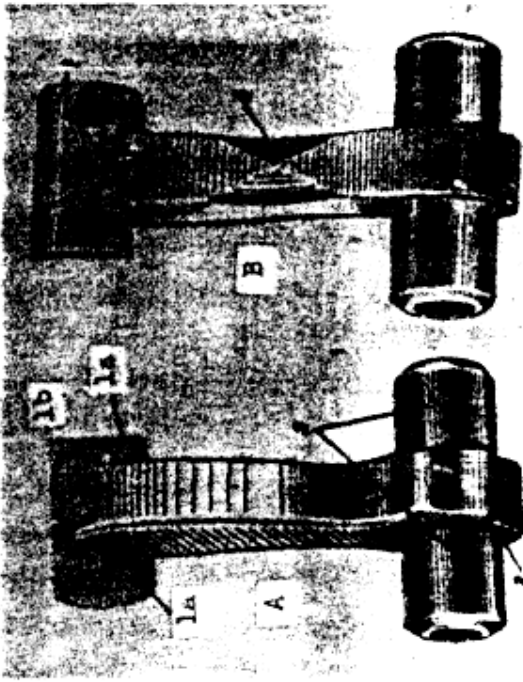

Figure 33. Hammer (0-2).
The hammer (fig. 33) serves to strike the firing pin; it has a head (1) the flat portions (1a and 1b) of which serve as the cock notch (1a) and disconnector notch (1b). The head is rounded in the lower portion to obtain smooth action on the sear and on the disconnector.